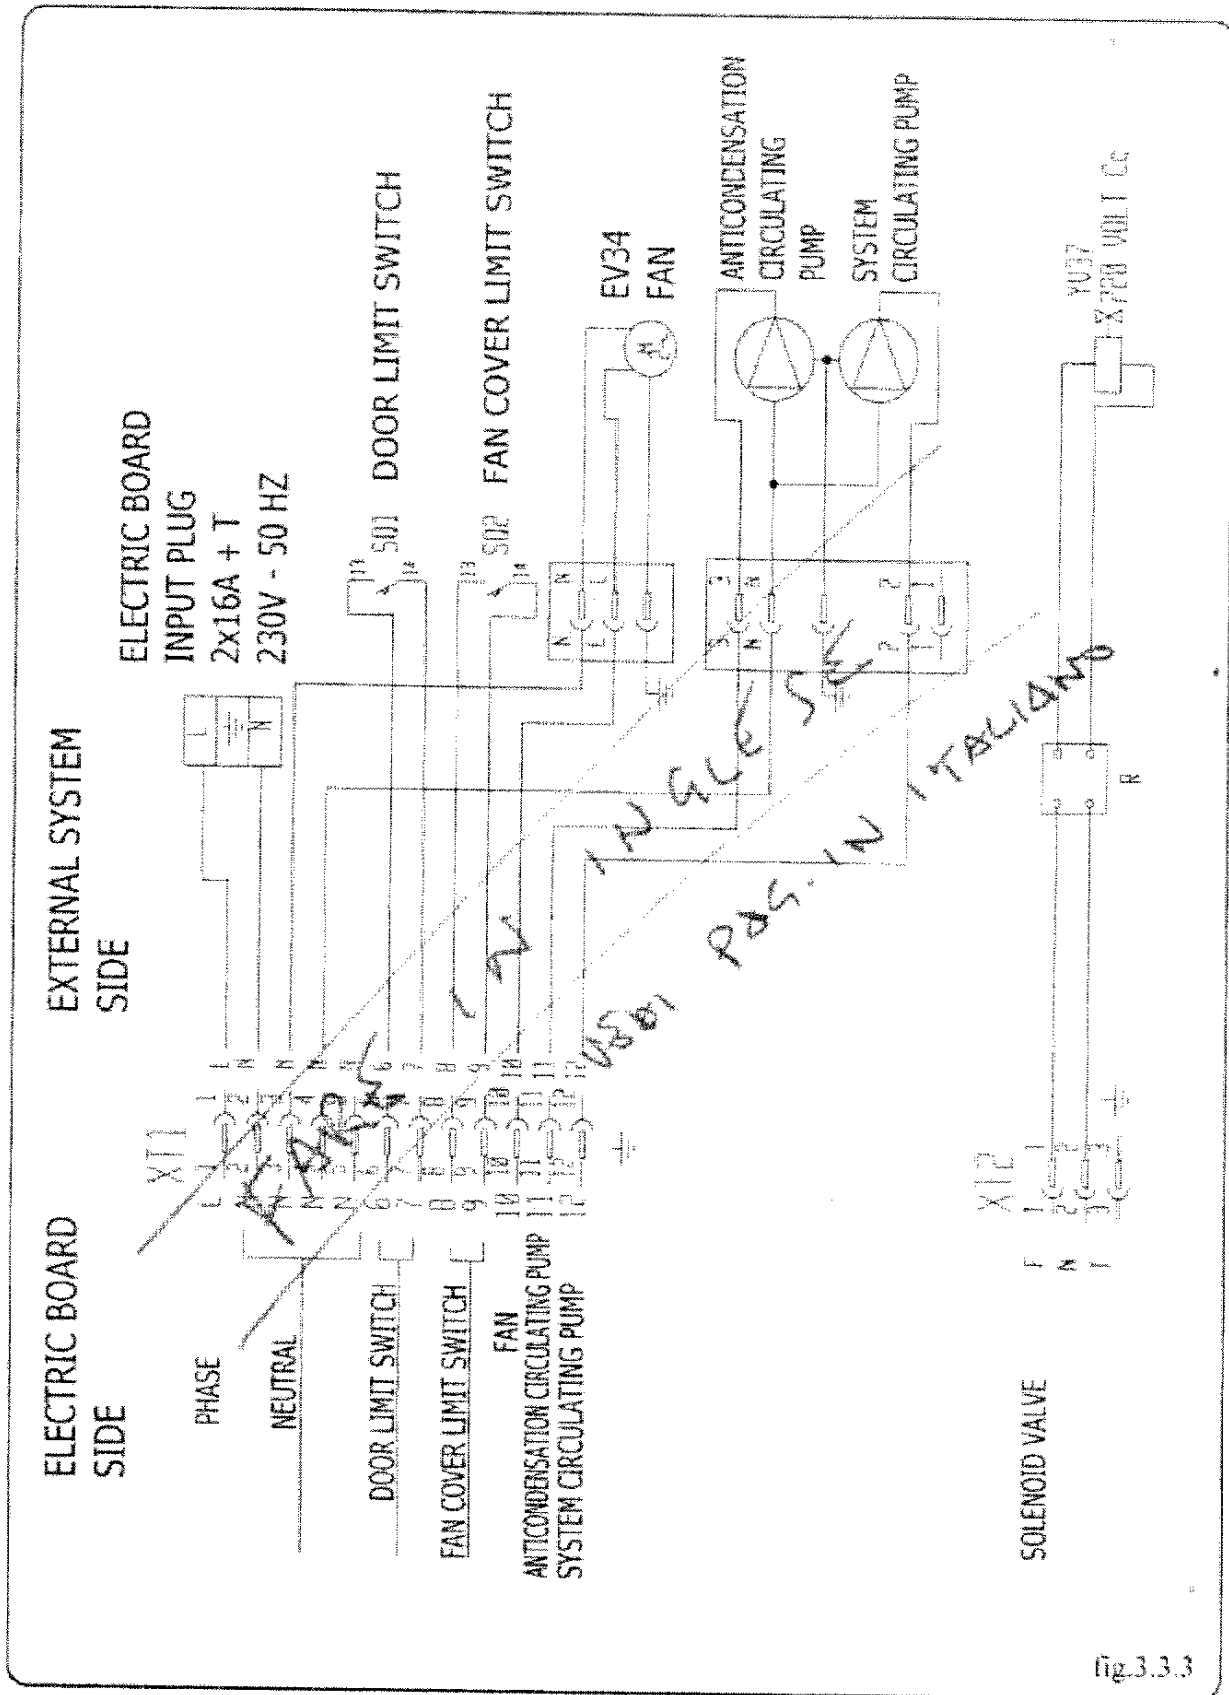

fig.3.3.3
3.3 -Wiring diagram GLUP 45 e GLUP 70 (fig.3.3.3-fig.3.3.4)
An ambient thermostat can be fitted to the boilers to stop the system pump when indoor temperature reaches the thermostat set value. Should the boiler temperature rise due to firewood heat inertia, an anti-boiling thermostat housed inside the electric panel and set to 87°C will re-start the system pump. If the manual 4-way (VM) mixing valve is installed, never close it fully. In case of motor-driven 4-way (VM) mixing valve, the ambient thermostat governs it. Therefore never remove the connector U-bolt (see fig. 3.3.3). In this event, a further anti-boiling "arm-type" thermostat set to approx. 85°C should be installed - this is different from the boiler anti-boiling thermostat. It will open the valve (VM) when the temperature reaches 85°C.